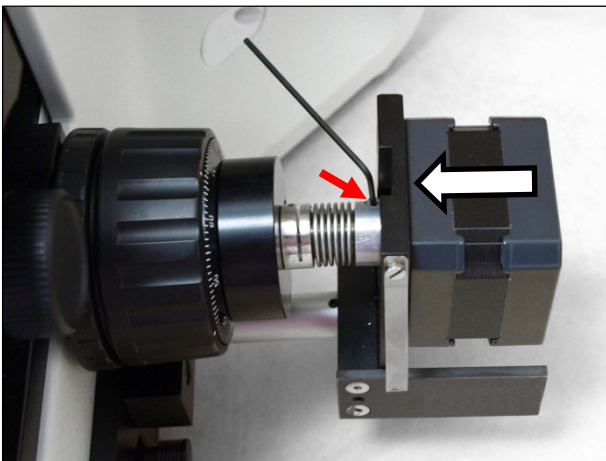

Fig. 11
- ▶ Slide the coupling (3) up to the stop onto the driving disc (2) as illustrated in Fig. 11.
- ▶ Tighten the marked clamping screw. For this, use Allen key 1.5 (7).